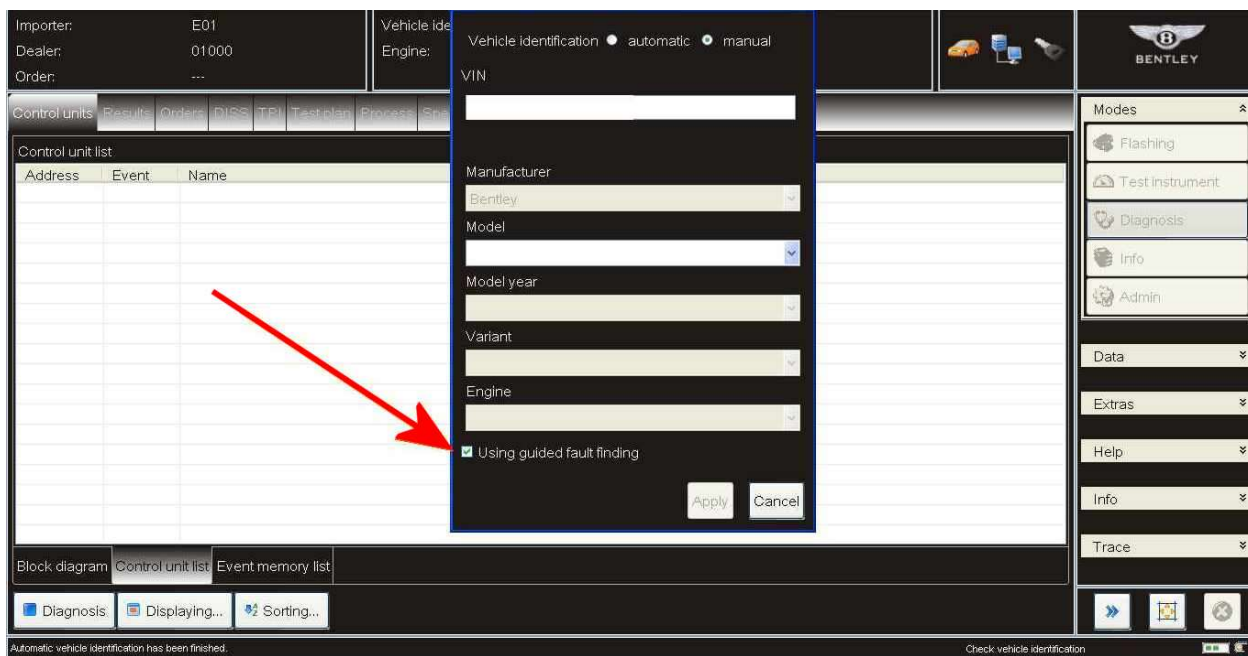

Figure 2
- Ensure the Using guided fault finding box is ticked (Figure 2) - follow all on screen prompts to allow the guided fault finding control module sweep to complete